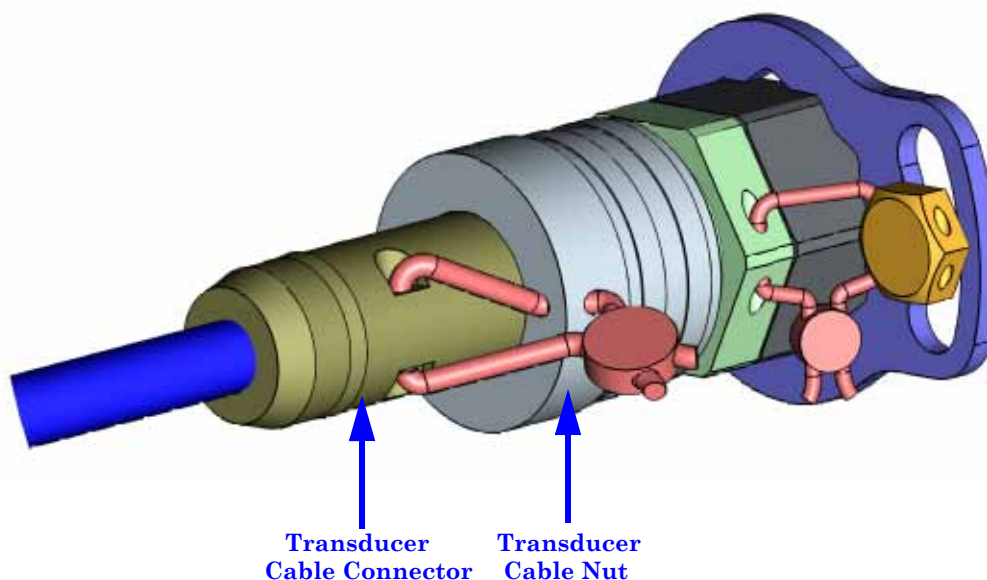

Figure 3-30 Transducer Cable Connector to Transducer Cable Nut Security Seal
4. For each Transducer Assembly, install a security seal wire on the Transducer Cable Connector to the Transducer Cable Nut by rotating the Transducer Cable Nut clockwise; compressing the seal on the Transducer Cable Connector (see Figure 3-30).